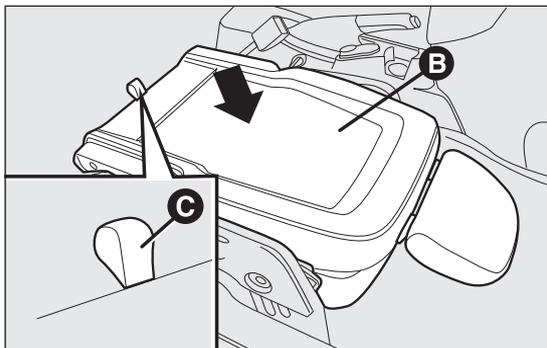

fig. 19
- then push the backrest B fig. 19 down: the seat is now completely folded over on itself into the "table" position;
- pull flap C fig. 19 and push the backrest down further: the seat is now completely folded away.
- take tab C fig. 19 and lift the backrest up;